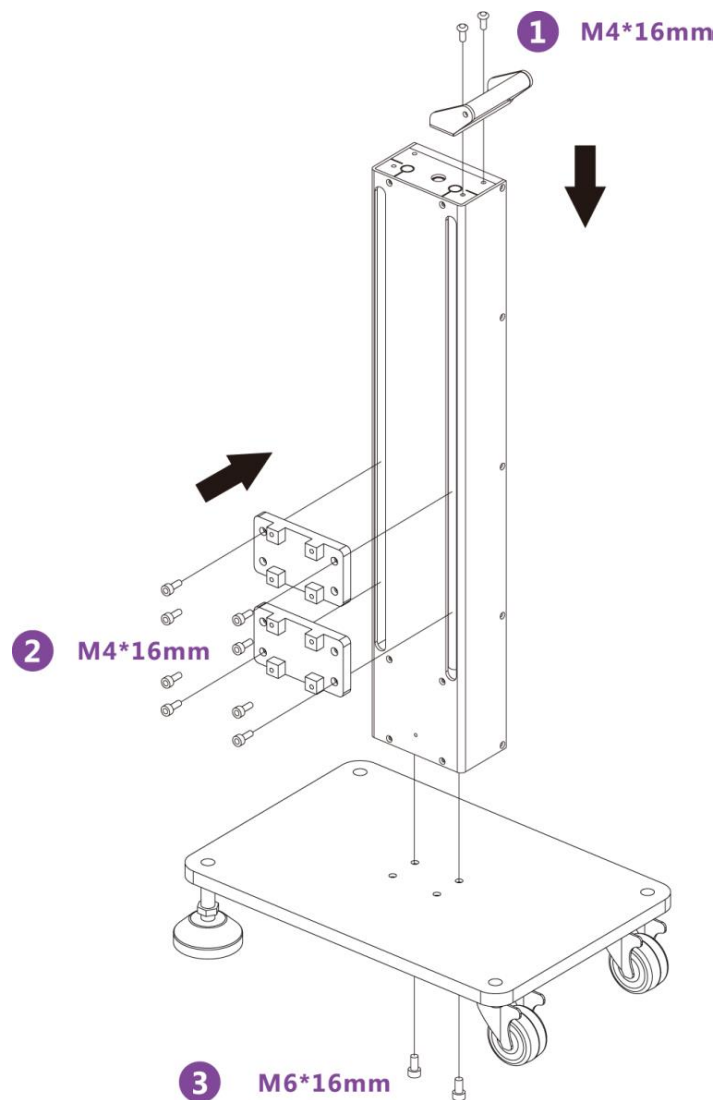

Figure 6: Installing the Motorized Bracket
Step ①: Mount the fixing blocks onto the motorized bracket with screws (M4\*16mm), as shown in Figure 6.
Step ②: Mount the motorized bracket onto the bracket support base with screws (M6\*16mm), as shown in Figure 6.